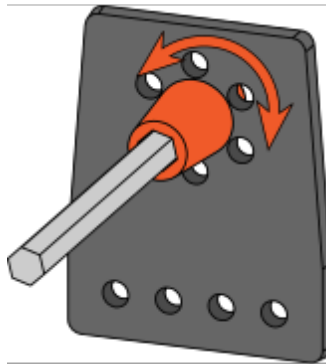

Figure 5: Plastic Bearing in a Motion Bracket
The REV Robotics 15mm Extrusion Building System uses plastic acetal (Delrin/POM) molded bearings. These bearings have a maximum 9mm outer diameter (OD) which fit inside the 9mm inner diameter (ID) hole in the all the motion brackets (Figure 5).